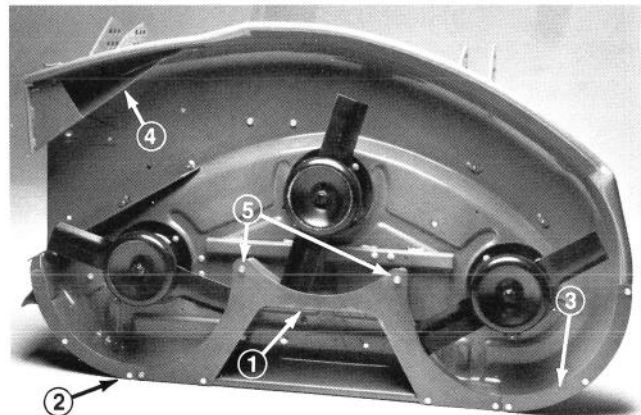

Figure 8
10. Position and secure center ring baffle to deck bosses with (2) 1/4-20x3/4 self-tapping screws and washers (Fig. 8).
11. Using center ring baffle as a template, mark and drill (4) 9/32 in. diameter holes thru center of curved edge of deck (Fig. 8).
15. Secure right baffle to deck with (2) 1/4-20x3/4 capscrews and nuts. Remove carriage bolt securing right baffle to deflector mounting hole. Tighten all previously installed fasteners.
16. Align left ring baffle with end of center baffle and edge of deck. Mark and drill (3) 9/32 in. diameter holes thru center of curved edge of deck. Secure with (3) 1/4-20x3/4 capscrews and nuts (Fig. 8).